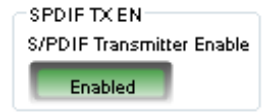

Figure 38. Activating the **SPDIF_TX_EN** Register
- d. To activate the S/PDIF interface, click **Disabled** in the **SPDIF TX EN** box. When this button is clicked, the text displayed on the button changes to **Enabled** and the button color changes from red to green (see Figure 38).